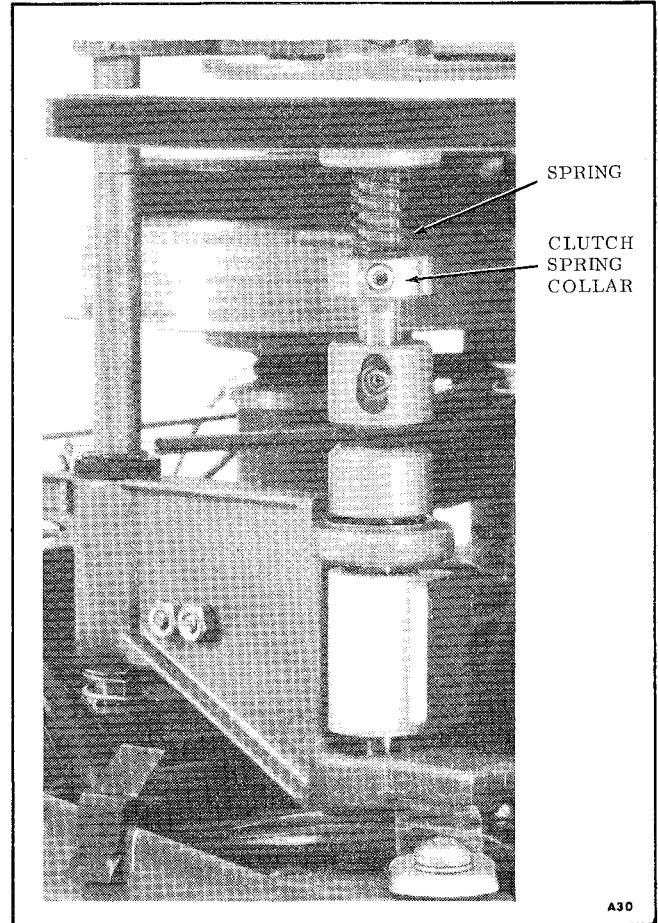

Figure 5-1. Supply Torque Adjustment
5.6 SUPPLY REEL TORQUES (See Figure 5-1)